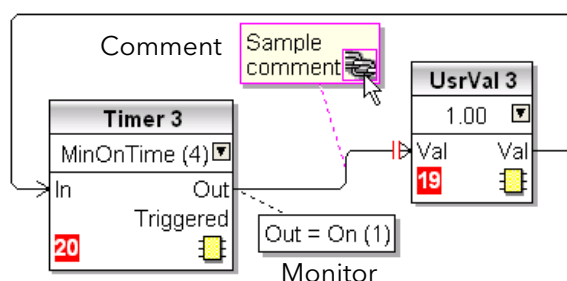

Figure 7.3.2f Comment and Monitor appearance
Comments can be linked to function blocks and wires by clicking on the chain icon at the bottom right-hand corner of the comment box and then clicking again on the required block or wire. A dashed line is drawn to the top of the block or to the selected wire segment (figure 7.3.2f).
**Note:** once the comment has been linked, the Chain icon disappears. It re-appears when the mouse cursor is hovered over the bottom right-hand corner of the comment box, as shown in figure 7.3.2f, below.